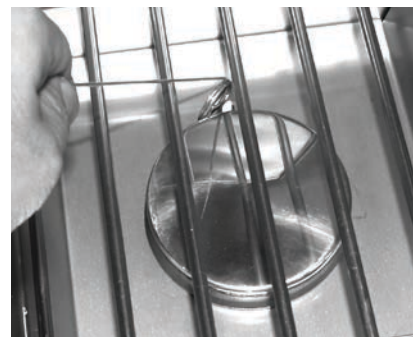

Fig. 25-2 Manual lighting
2. Insert either a burning long-barrel butane lighter, a burning long-stem match, or a burning match held by a wire extension holder through the cooking grid opening to the burner (Fig. 25-2). Hold the flame against the edge of the burner.
4. If the burner does not light within five (5) seconds of turning the control knob, **immediately depress the knob and turn the valve to OFF**. **WAIT FIVE (5) MINUTES** before repeating steps 2 through 4 of the MANUAL LIGHTING instructions.